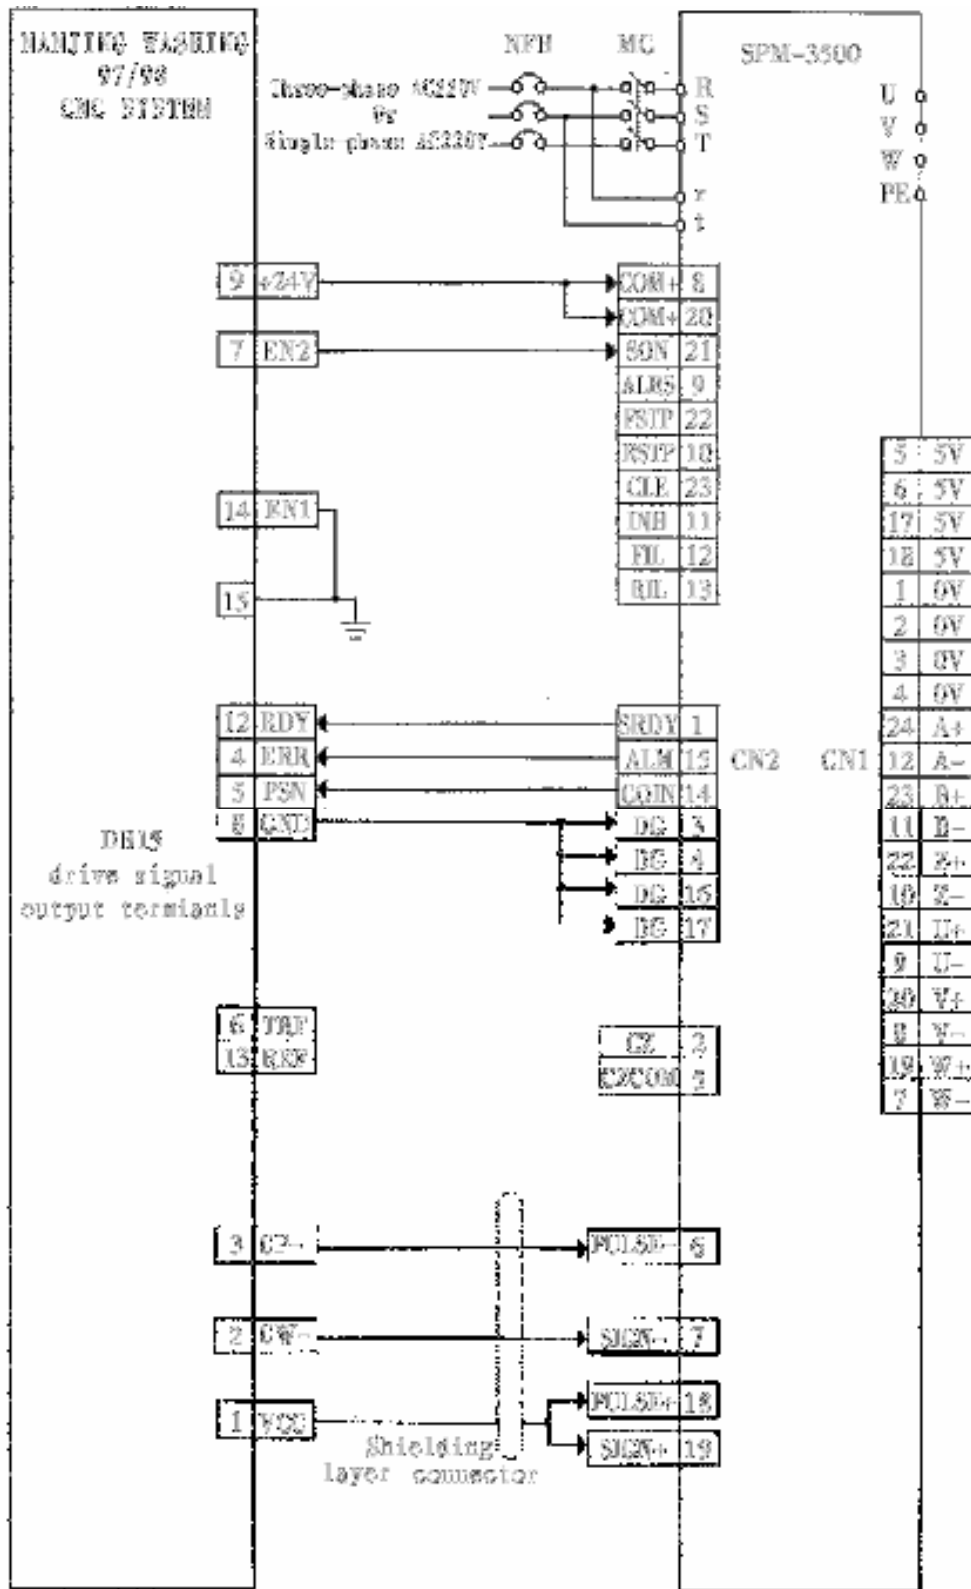

Fig 5.2 The standard wiring for position control mode between the driver and our company's 97/98 CNC system
- 2) Fig 5.2 shows: The standard wiring for position control mode between the driver and our company's 97/98 CNC system;